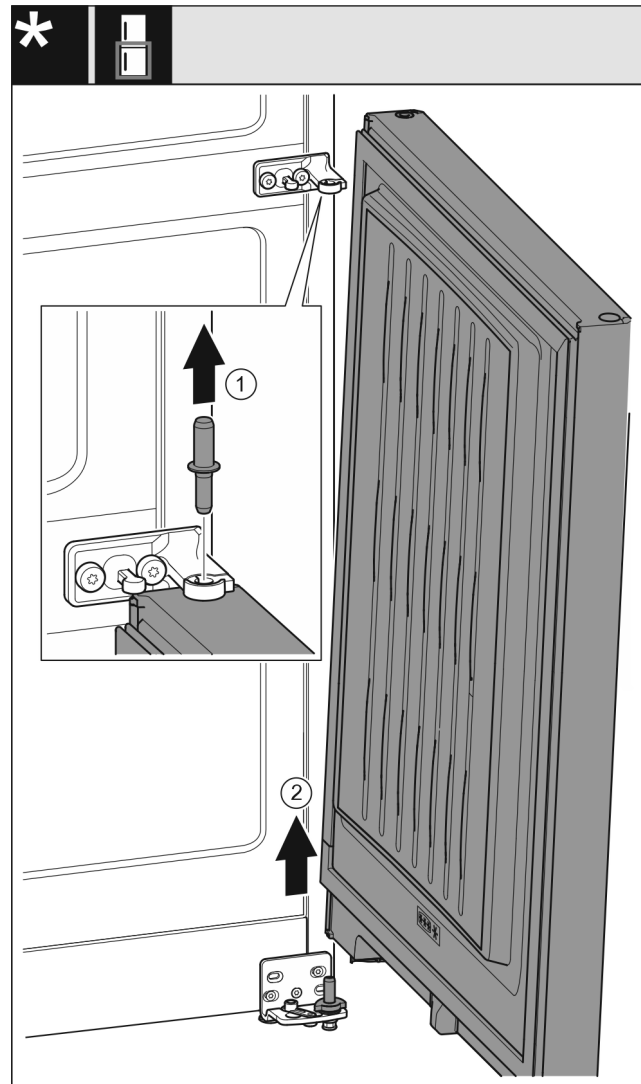

Fig. 8
- Pull out the bolts upwards. *Fig. 8 (1)*
- Swing the door out, pull it upwards and place it to one side. *Fig. 8 (2)*